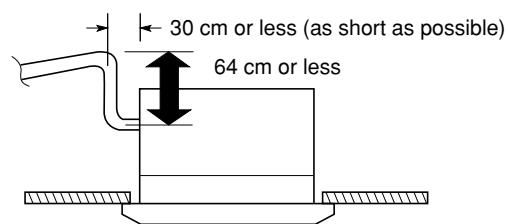

Fig. 3-56
- If it is necessary to increase the height of the drain pipe, the section directly after the connection port can be raised a maximum of 64 cm. Do not raise it any higher than 64 cm, as this could result in water leaks. (Fig. 3-56)